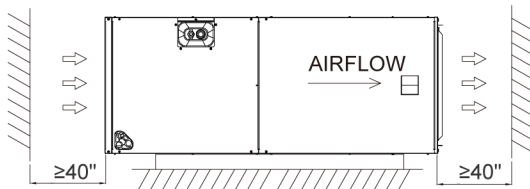
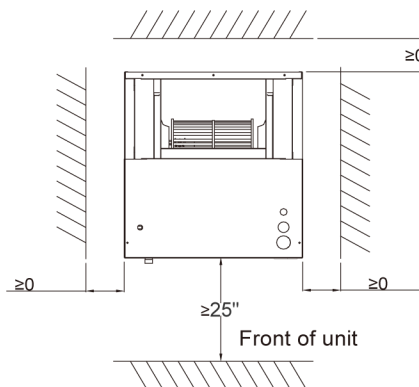

Fig.2-1 CLEARANCES IN THE HORIZONTAL POSITION
Fig.2-2 CLEARANCES IN THE VERTICAL POSITION
See Fig.2-1 and Fig.2-2.
- Low voltage control connections are made to low voltage pigtailed extending from top of air handler (upflow position - see Fig 2-2).